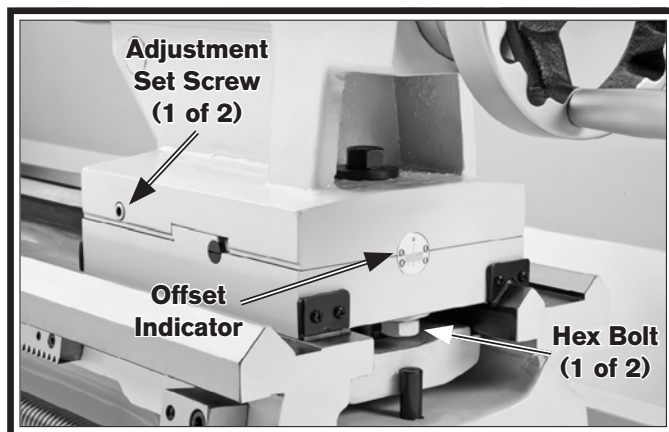

Figure 44. Tailstock offset controls.
1. Loosen the hex bolts underneath both ends of the tailstock to release the clamping pressure between the top and bottom castings (see **Figure 44**).